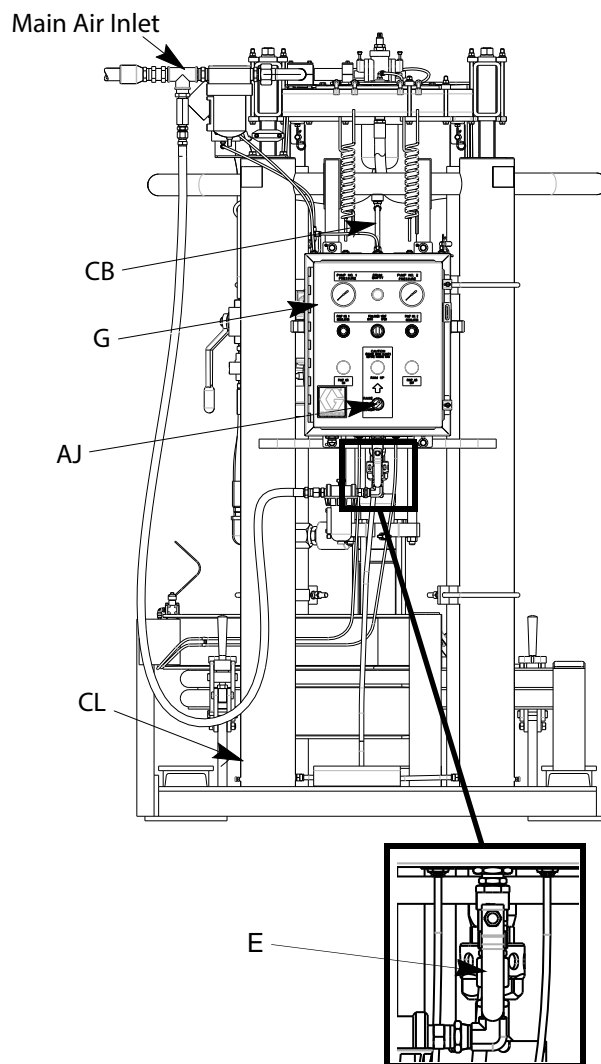

FIG. 11
At the Pneumatic Logic Panel (G) (FIG. 11), perform the following steps:
- 1. Close the Main Air Inlet Valve (E). See FIG. 11.
3. Once both safety hitch pins (806) are secured, turn off all air to the system by closing the main air shutoff valve on the header and follow your facility's pre-established lock-out/tag-out procedures. See FIG. 11 on page 29.